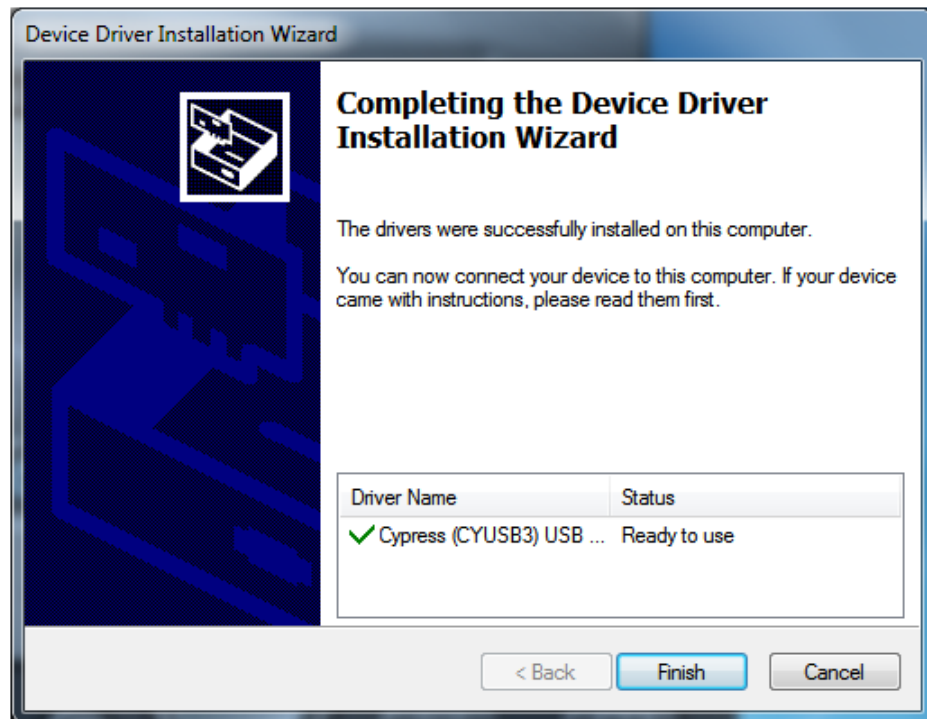

Figure 31. HSDCPro Install (Continue Cypress Driver Installation)
- Click *Finish* to continue installation, as shown in Figure 31.